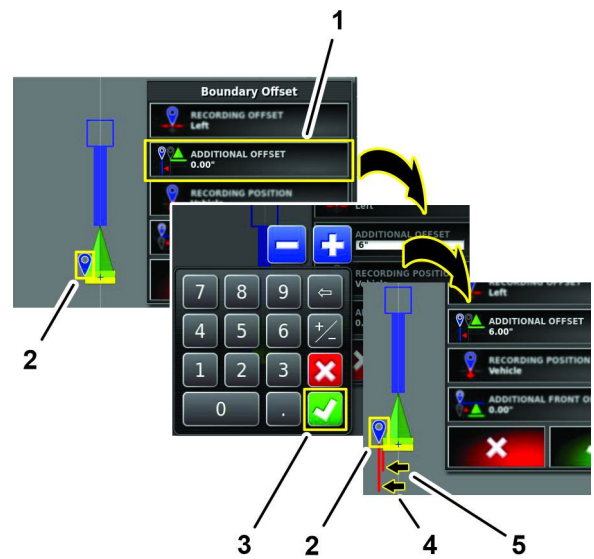

Figure 199
1. Press the ADDITIONAL OFFSET icon (Figure 199).
2. Use the on-screen keypad to enter the side-offset distance, and press the confirm icon (Figure 199).